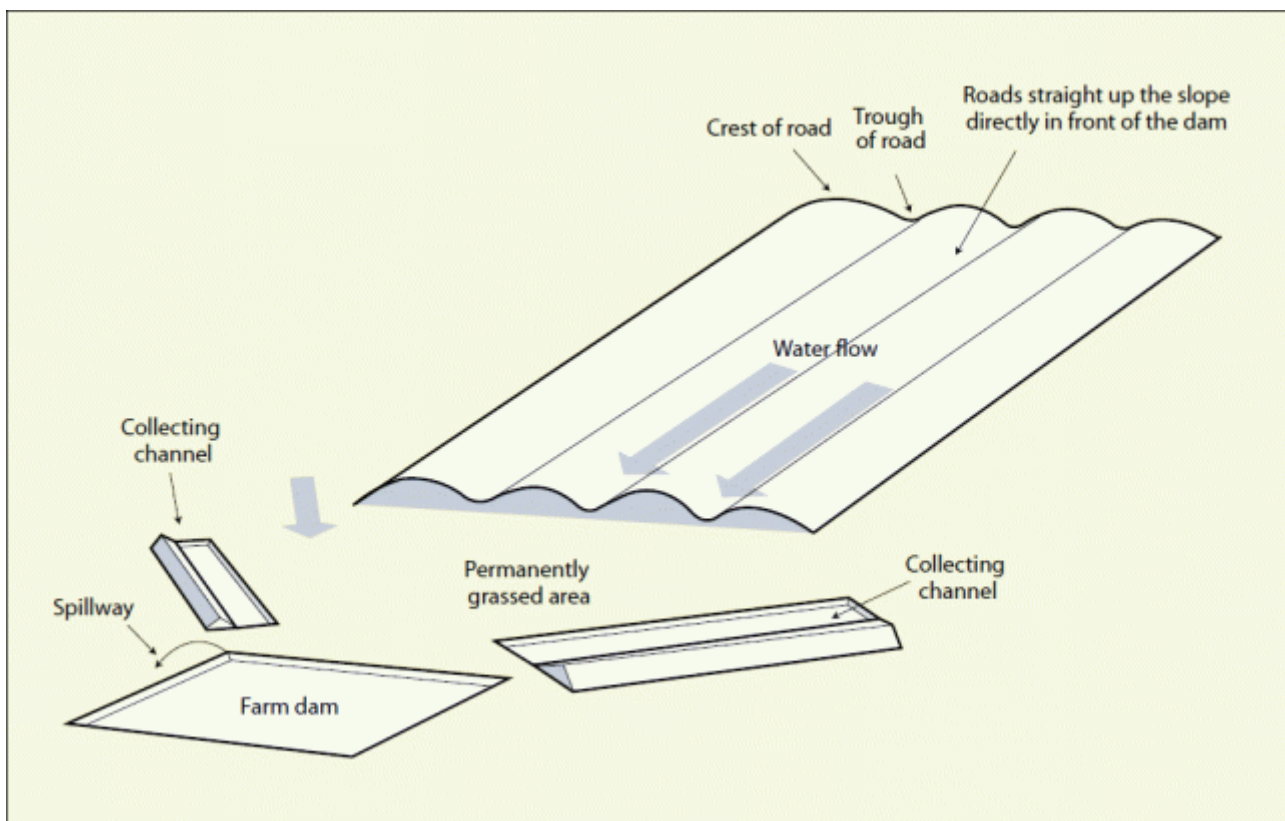

Figure 1: Recommended layout for ground slopes less than 1:80 (or 1.25%)
1. On gently sloping ground with slopes of less than 1:80 (1.25%), where the slope is close to that of the design grades of the road channels. The roads are constructed straight up the slope in front of the dam and discharge directly into the front of the dam via a sediment trap. If there are many roads, a collecting channel can be built (see Figure 1).
To prevent water ponding at the outlet to the dam, or stored water from the dam extending over the catchment surface, road channels should not be cut below the full level of the dam (see Figure 1).